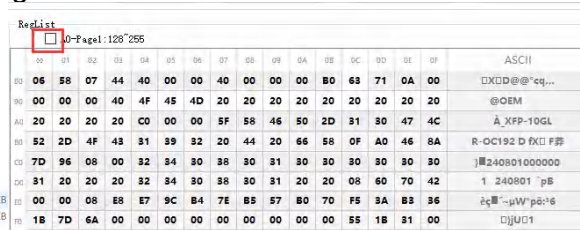

Figure 31
3.1.3 Click to uncheck the box for "A0:Page1:128~255" (Figure 31)